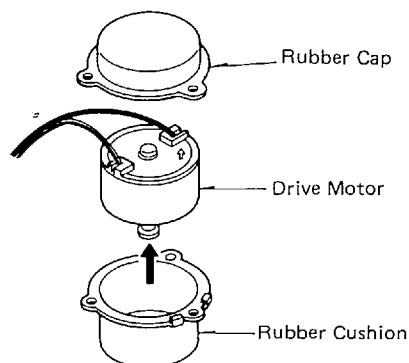

Fig. 6
2. Open the rubber cap, and unsolder the 2 terminals from the turntable drive motor (Fig. 6).
3. Pull out the turntable drive motor, and remove it from the rubber cushion (Fig. 6).